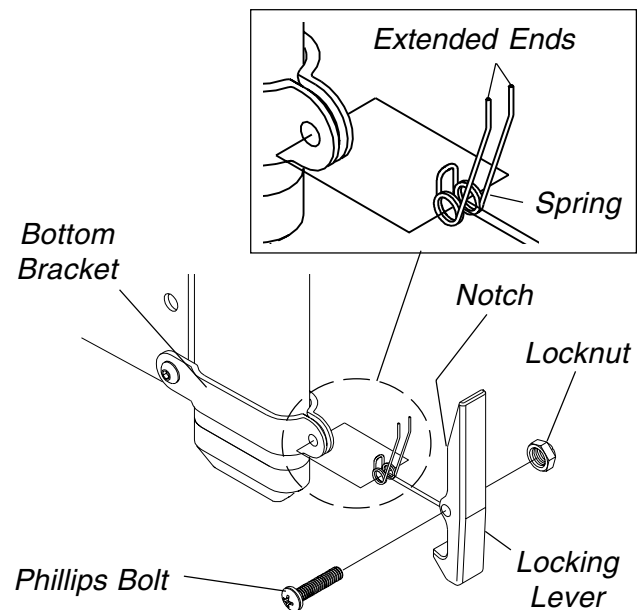

FIGURE 8 - REPLACING THE LOCKING LEVER - "T" ARMS
REPLACING THE LOCKING LEVER - "T" ARMS (FIGURE 8)
4. Position the spring on the bottom bracket as shown in **FIGURE 8**.